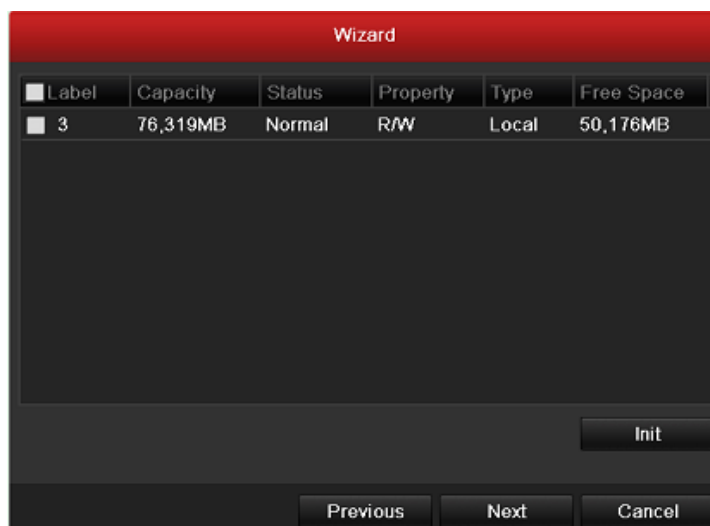

Figure 2.5 HDD Management
7. Click **Next** button after you configured the network parameters, which takes you to the **HDD Management** window, shown in Figure 2.5.